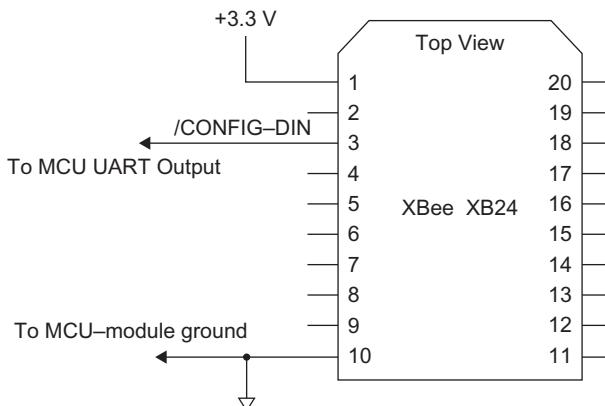

FIGURE 16.2 Connections at the XBee XMTR module for Experiment 16.
Step 3. The schematic diagram in Figure 16.2 shows the connections needed for the XMTR module in your breadboard. You need only power, ground, and a connection to your MCU. You may connect the wire to pin 3 on the XMTR module now, but do not connect it to your MCU. If you have other components or wires connected to the XMTR module, please disconnect them now. You also need a ground connection between your MCU and the XBee breadboard.